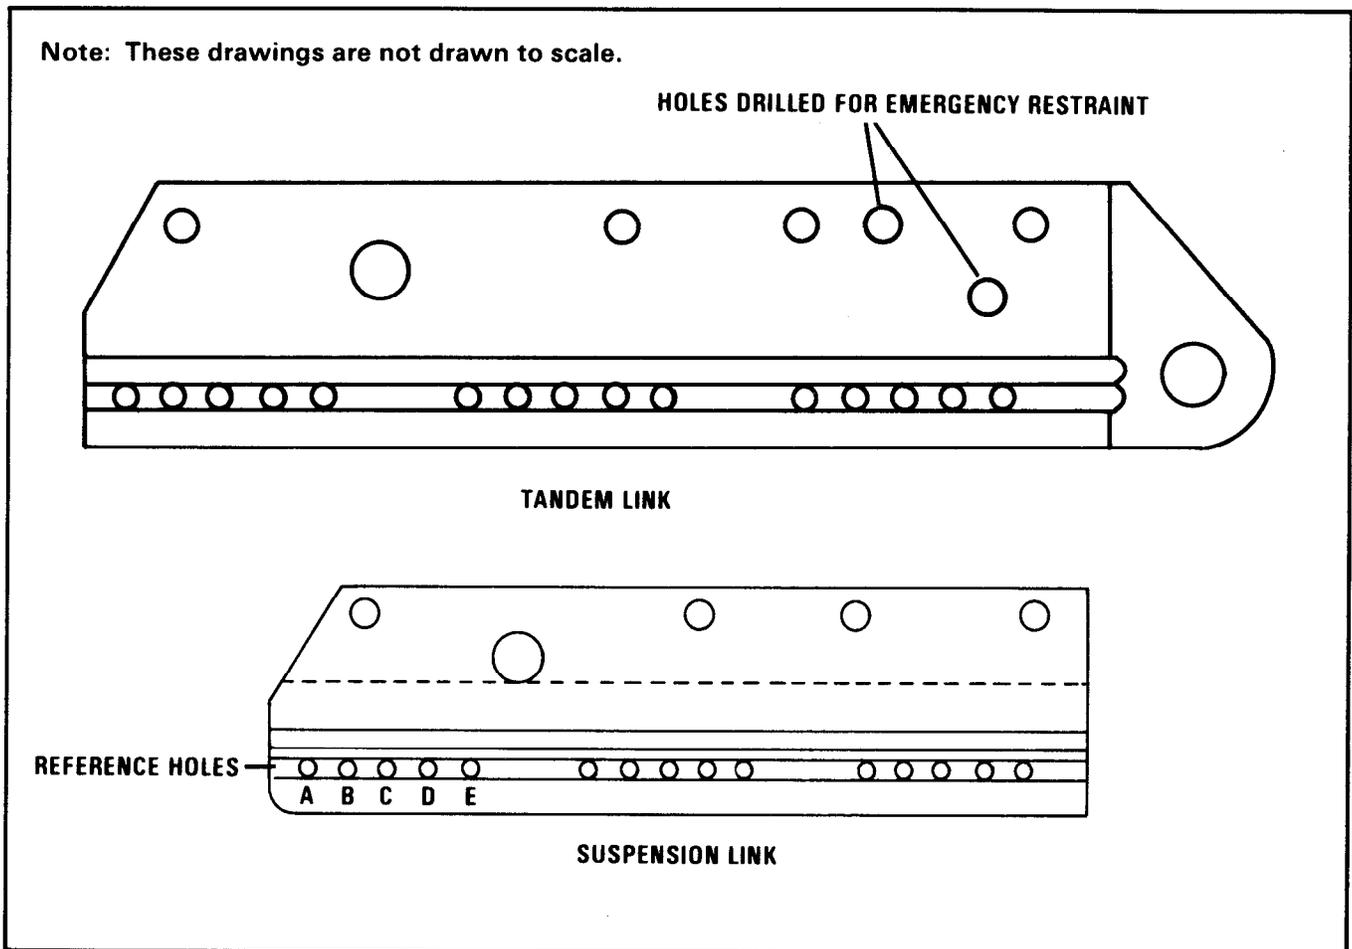
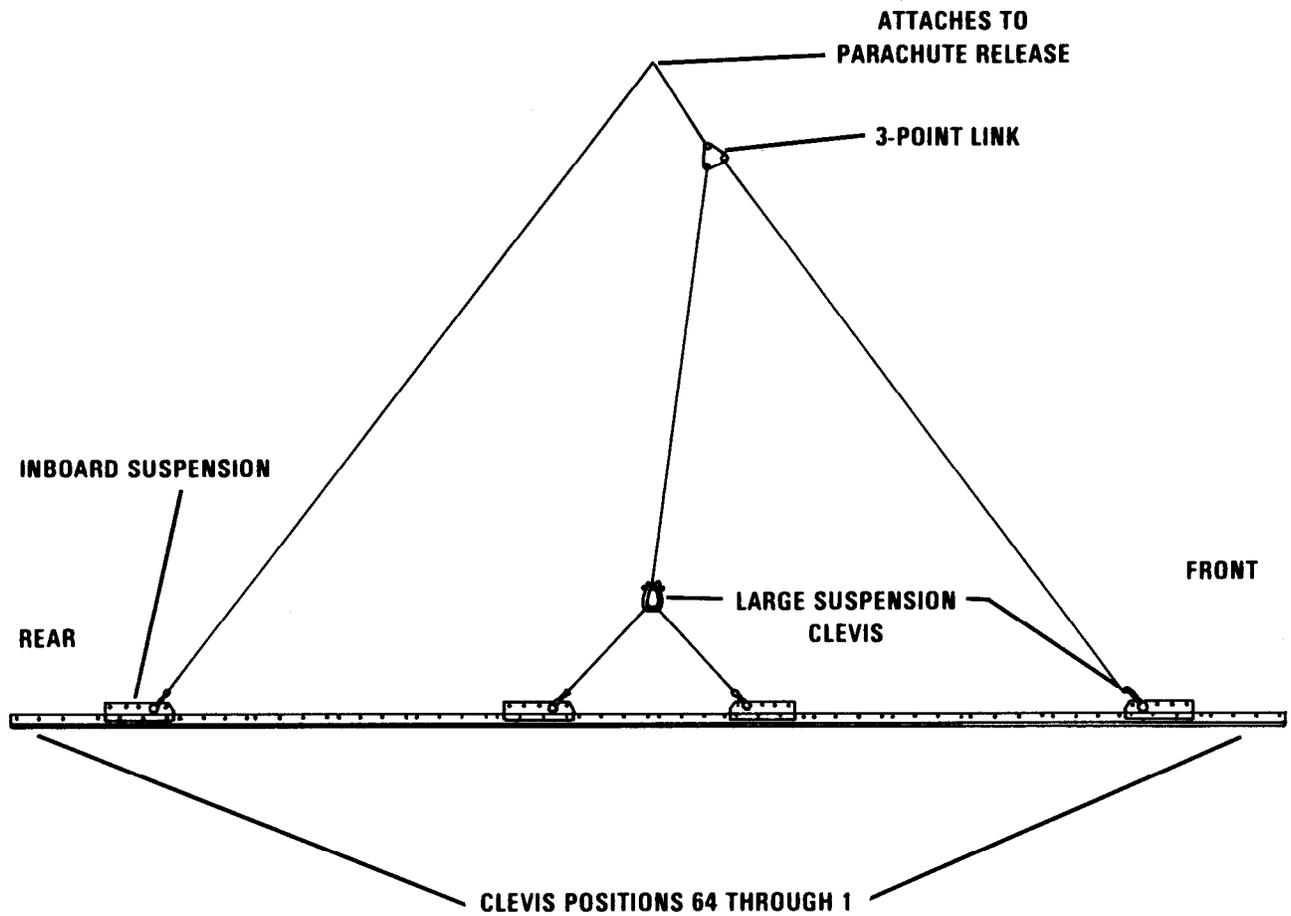

Figure 3-1. Tandem link and suspension link
Figure 3-4. Centerline suspension system shown on a 32-foot platform
a. Type V Platform. The suspension points for a platform-suspended load on a type V platform are the suspension link holes. The tandem link has been modified as shown in Figure 3-1, to allow for emergency restraint. The suspension link as shown in Figure 3-1, can be positioned at
link as shown in Figures 3-1 and 3-2. The direction of the suspension link is determined by matching the hole "B" with the prescribed platform clevis number and placing the suspension link in the direction where it can be secured within the same panel bolt configuration. Figure 3-3 shows the suspension links installed. Table 3-1 shows the maximum allowable suspended weights for the four-point and centerline suspension systems. Figure 3-4 details the centerline suspension system.
<p>The centerline suspension system consists of eight suspension links, four of which form a bridge on each side of the platform in the center, and six suspension slings which rise to the release. Figure 3-4 details the configuration. The following table lists the maximum suspended weights along with the position of the suspension links on the platform rails.</p>